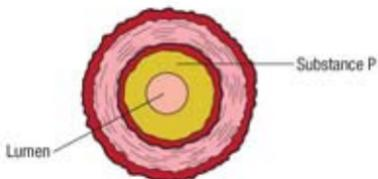

Figure 2
2. Figure 2 shows a cross section of an artery blocked by substance P which causes the lumen of the artery to become narrow and disrupts or blocks blood flow.